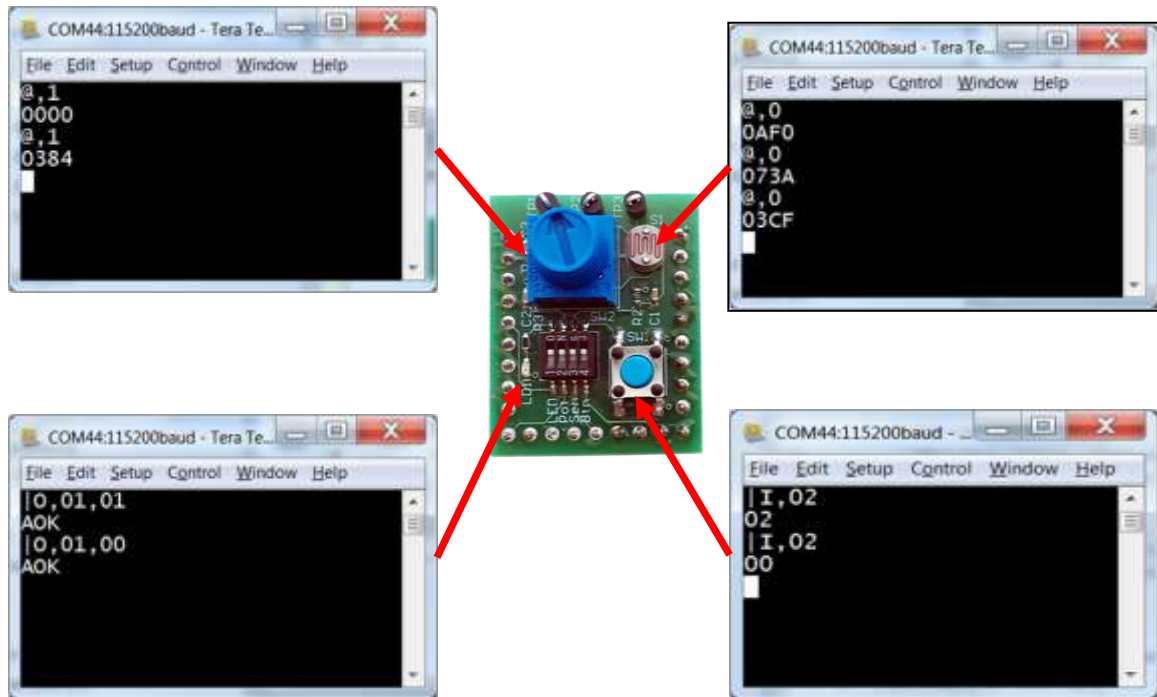

Figure 17: Commands to write and write Sensor Board IO
4. After the IO ports are configured and module is rebooted from previous SF,1 performed the following commands shown in figure 17 to read and write peripheral IO.